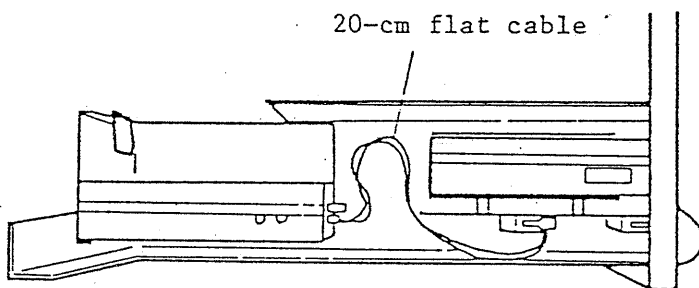

FIG. 12
- 10) Connect the connector board to the D/A converter with the 20CM flat cable. (See Figure 12.)